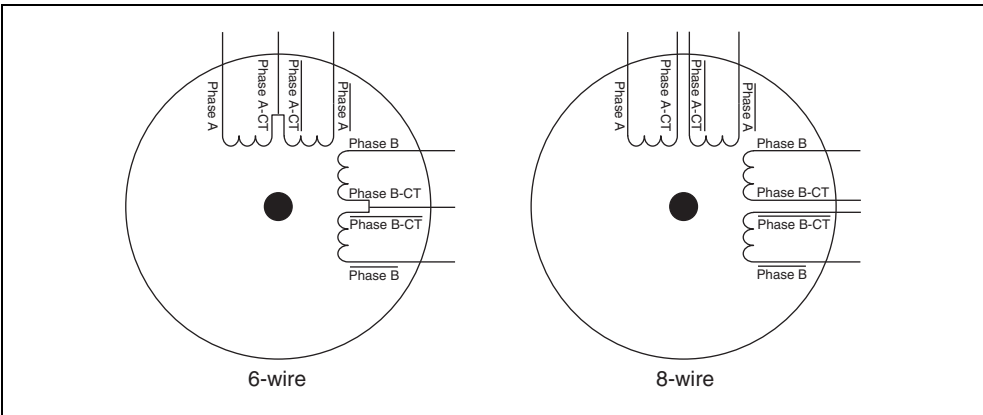

Figure 17. 6-Wire and 8-Wire Stepper Motors
Two-phase stepper motors come in 4-, 6-, and 8-wire variations. Figure 17 shows a 6-wire and an 8-wire stepper motor. A 4-wire motor is the same as a 6-wire motor except that the center taps (CT) are not brought out.